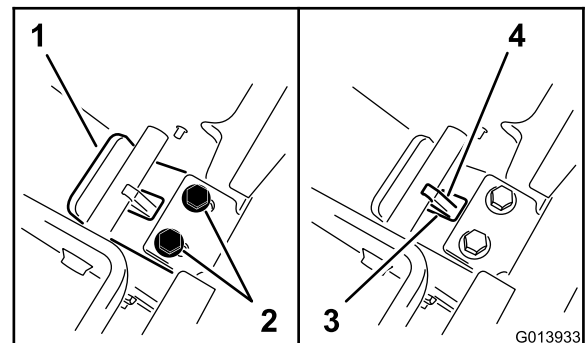

Figure 12
5. While maintaining the pressure on the back plate, slide the tongue toward you until the lip of the tongue plate contacts the crossbar (Figure 12).